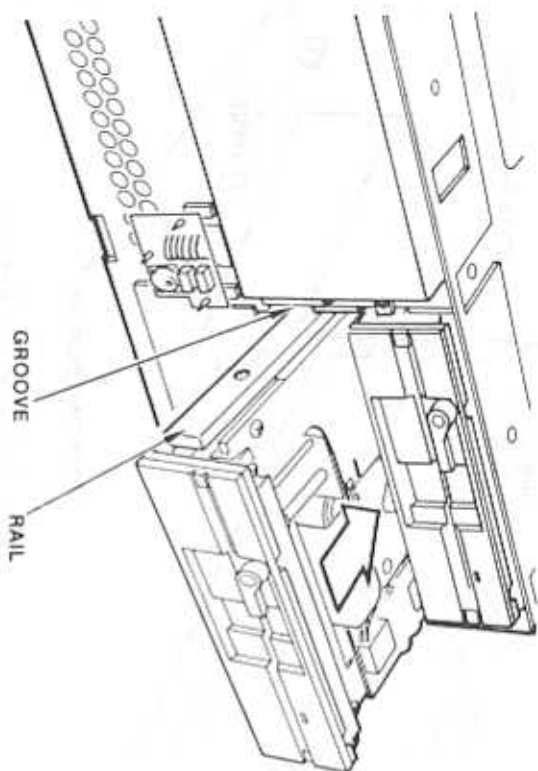

Figure 11-9. Installing the Drive
2. Align the rail which is attached to each side of the diskette drive with the groove in the frame. While lifting up slightly, slide the drive in gently (Figure 11-9). Be sure that any cables or wires are out of the way and do not prevent the drive from being fully inserted.